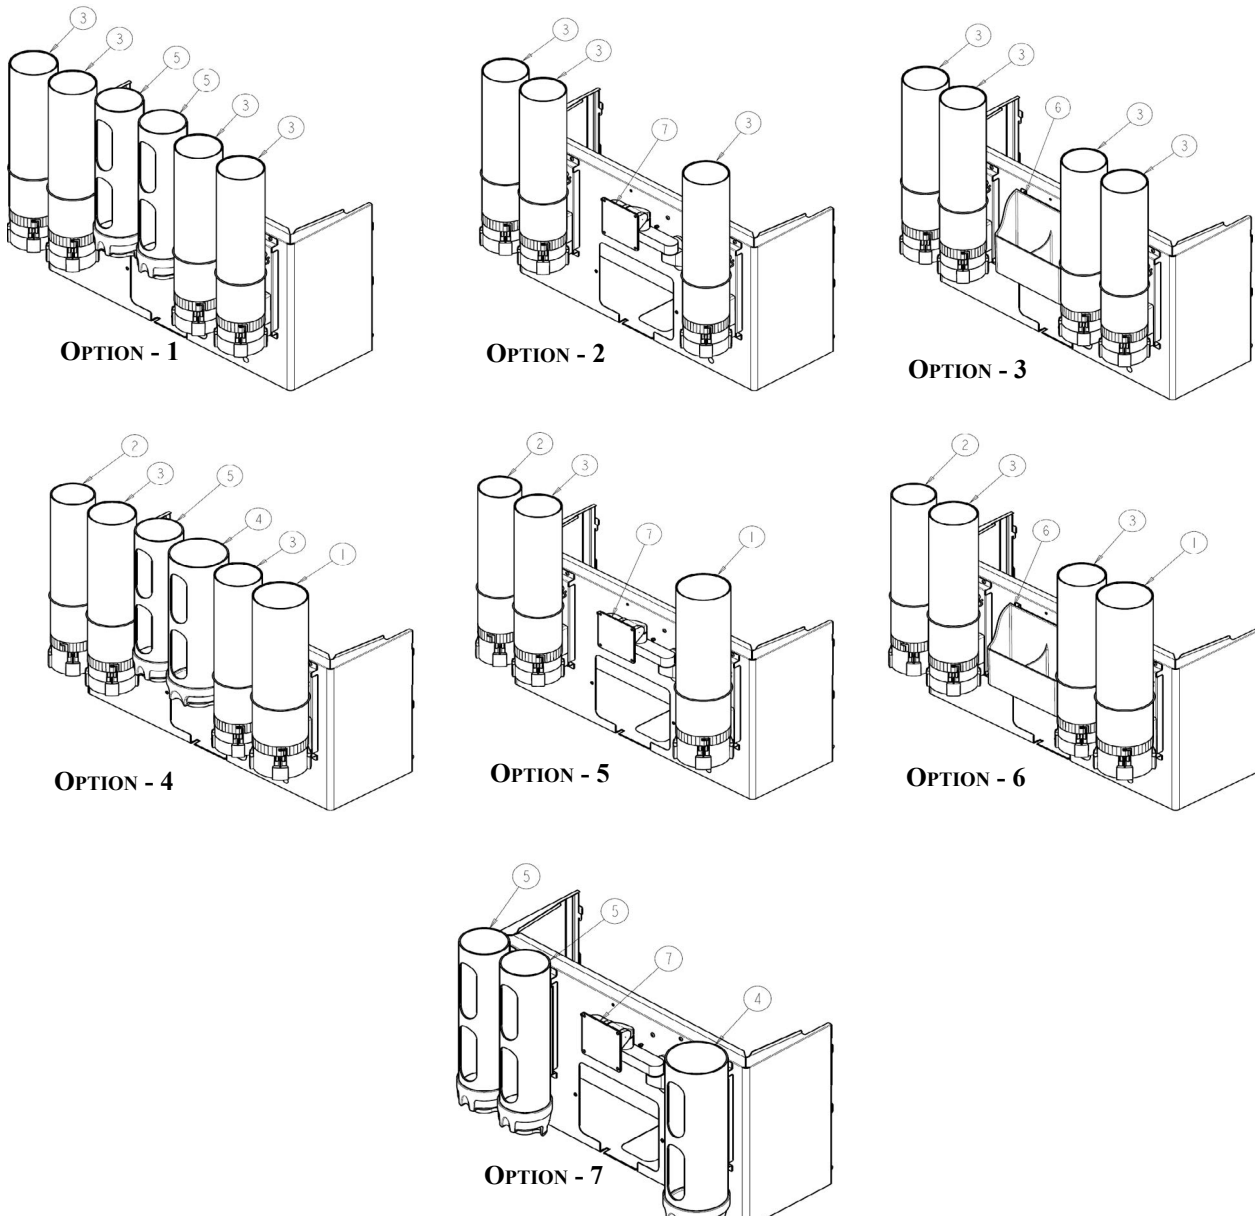

Figure 17.
**NOTE:** In order to install right adapter brackets, Refer Figure 17. in page no.14 for all possible configurations of Lid holder, Cup dispenser, Straw holder & VESA mount.